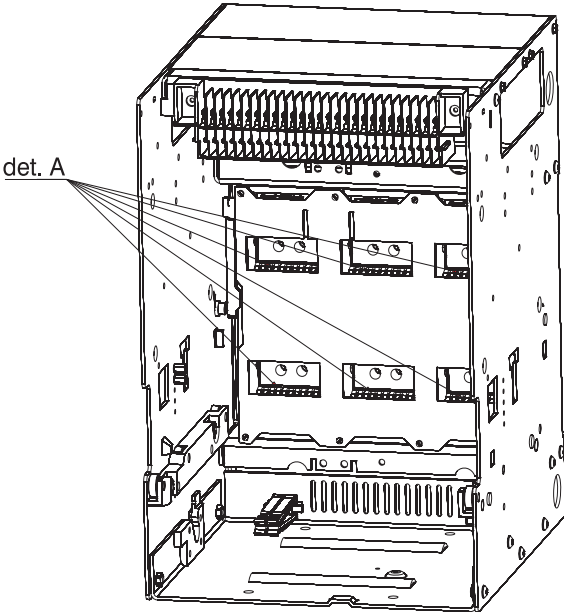

Fig. 39
- Check the circuit-breaking couple for damage (for the extractable switch, see feature A, fig 39).